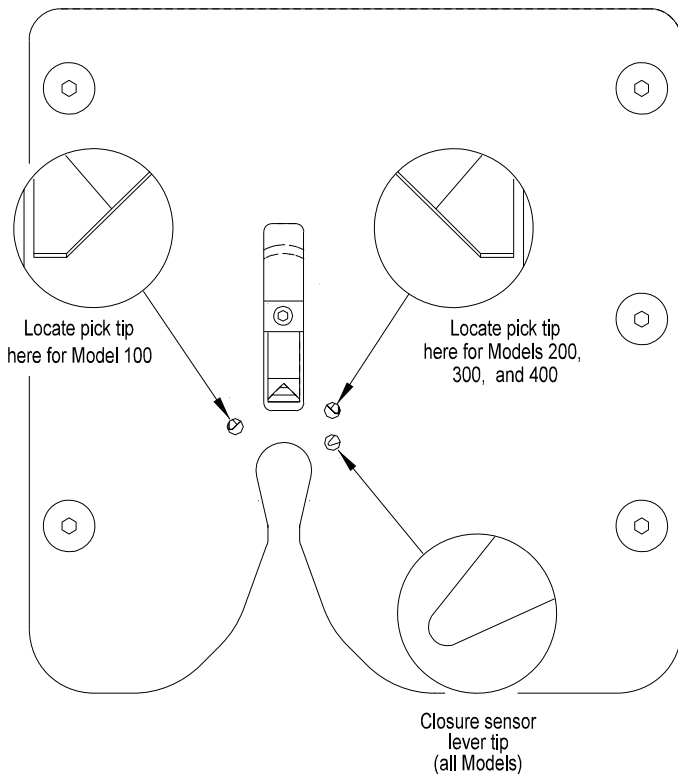

Figure 3.8
## G. SENSOR LEVER STOP ADJUSTMENT (Figures 3.8 & 3.9):
4. Determine the correct inspection hole for the model for your closer (Figure 3.8). The tip of the pick should be visible in half of the inspection hole as shown. Reposition the pick if needed as follows:
7. Slide the motor assembly until the pick is in the proper position when viewed through the inspection hole (Figure 3.8).